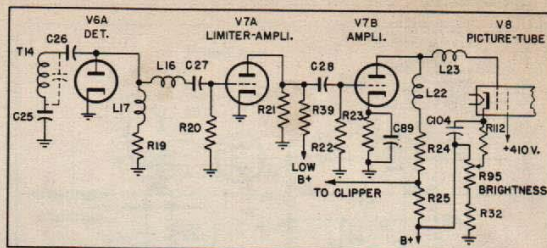

Fig. 4. Video Detector and Amplifier
3. VIDEO DETECTOR AND AMPLIFIER (SEE FIGURE 4).